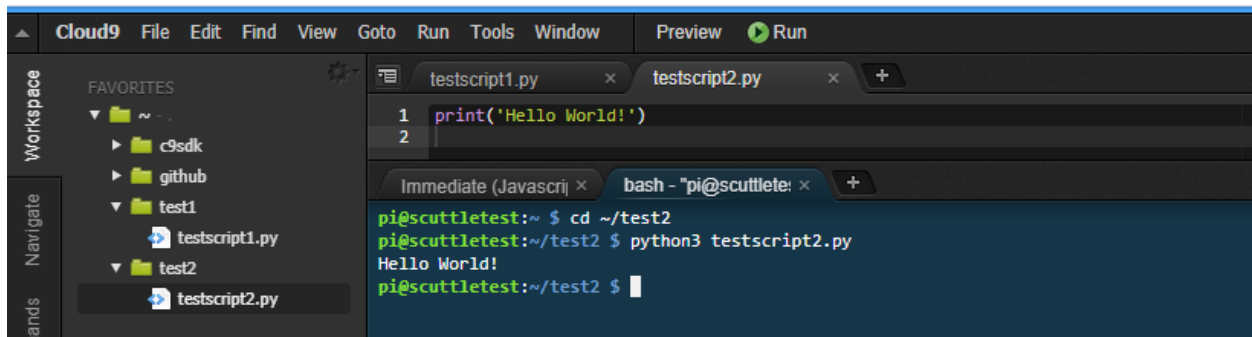

Figure 10
- a. This will navigate to the correct folder and run the file which should print out ‘*Hello World!*’ to the terminal as you can see in Figure 10: